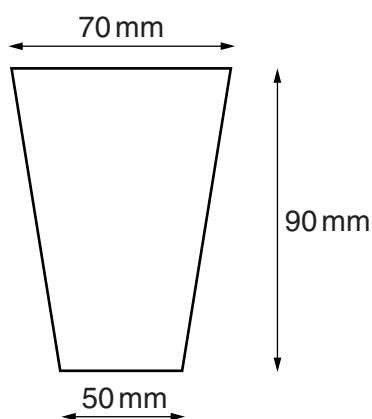

Fig. 2.1
- 1 The approximate dimensions of the cups should be as shown in Fig. 2.1.